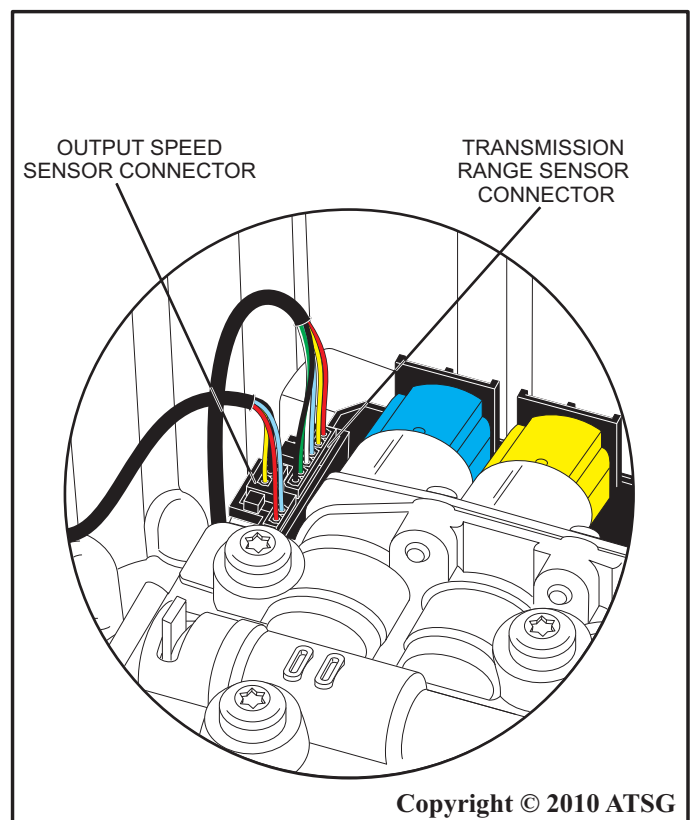

Figure 31
76. Install the output speed sensor connector into the mechatronic unit assembly connector as shown in figure 31.
77. Install the transmission range sensor connector into the mechatronic unit assembly connector as shown in figure 31.